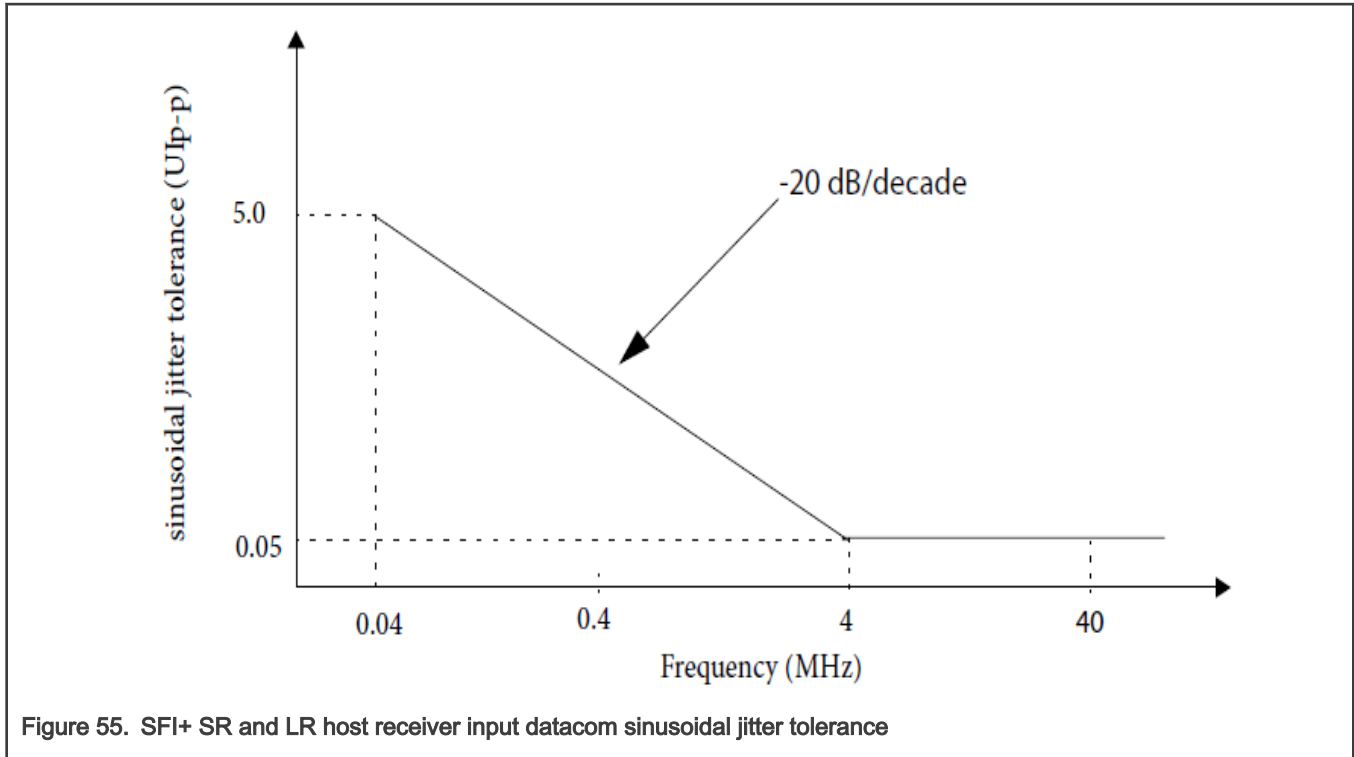

Figure 55. SFI+ SR and LR host receiver input datacom sinusoidal jitter tolerance
1. The 99% jitter is per SFF-8431 Rev4.1 and includes sinusoidal jitter, per Figure 55.